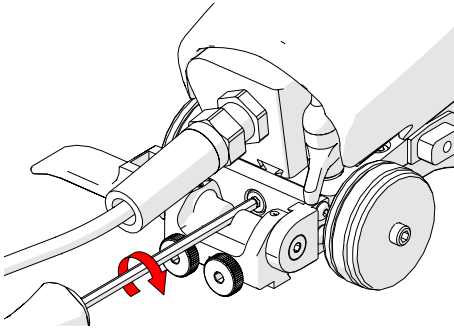

Fig. 30 - Screw to scanner body
3. Using the supplied 3 mm hex driver, screw the rear pivot to the cart (Fig. 30).